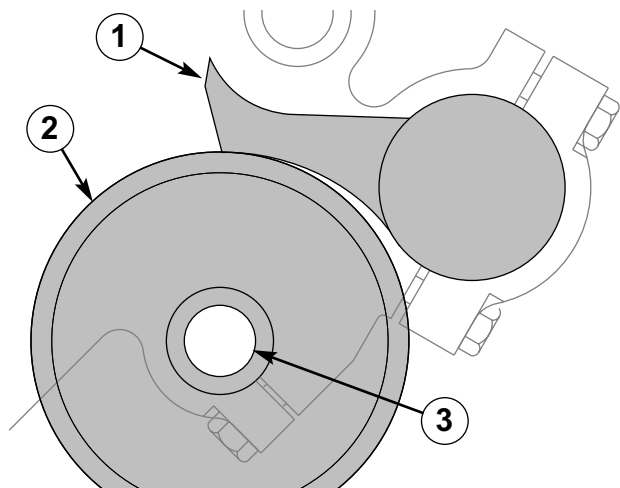

Figure 32 — Setting clearance between crosscut knife spindle and shear plate using clearance gauge.
1. **Remove crosscut knife spindle from the machine** (see “Disassembly”, page 40). Install clearance gauge on the crosscut spindle shaft (Figure 32).